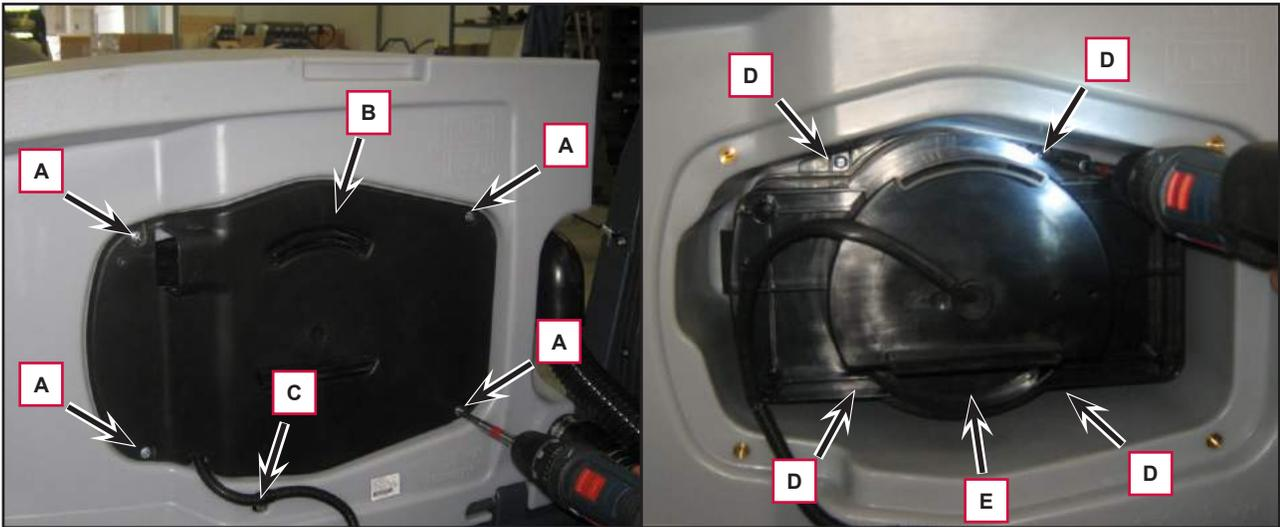

Figure 8
4. Unscrew the 4 screws (A) (Figure 8) and remove the case (B).
5. Unscrew the screw (C) holding the vacuum motor wiring.
6. Unscrew the 4 screws (D) and remove the vacuum motor unit (E).